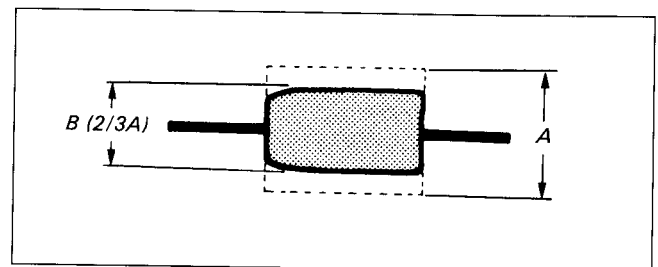

Fig. 7-70.
- 4) Set the SEL switch of the track shift & monitor jig to ON, then turn the track shift knob until the RF waveform amplitude is 2/3. (See Fig. 7-70.)